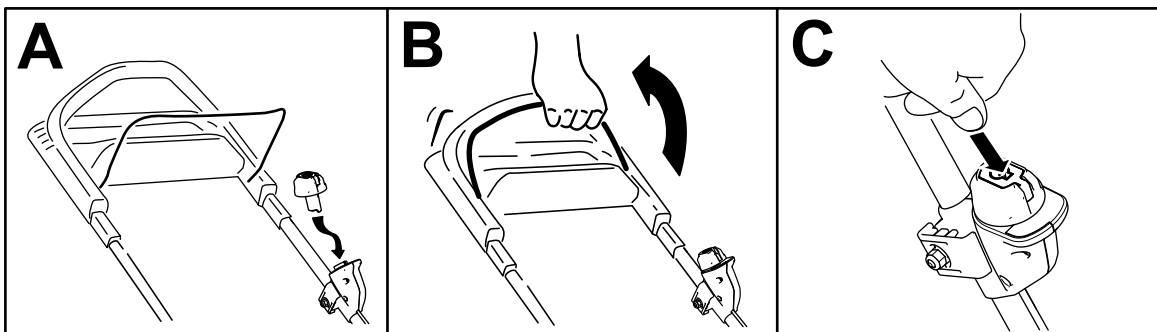

Figure 12
2. Insert the electric-start button into the electric starter switch (A of Figure 12).
3. Squeeze the blade-control bar and hold it to the handle (B of Figure 12).
4. Press the electric-start button and keep it pressed until the motor starts (C of Figure 12).